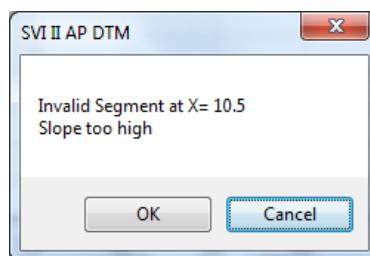

Figure 47 Invalid Segment Dialog
3. Enter values in the *Setpoint (%)*/*Position (%)* fields from lowest to highest. If there is too drastic a slope change a dialog appears (Figure 47). Adjust values accordingly.